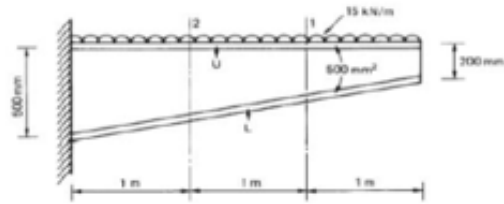

Figure 6
- (b) A wing spar has the dimensions shown in Figure 6 and carries a uniformly distributed load of 15 kN/m along its complete length. Each flange has a cross sectional area of 500 mm^2 with the top flange being horizontal. If the flanges are assumed to resist all direct loads while the spar web is effective only in shear, determine the flange loads and the shear flows in the web at sections 1 and 2m from the free end. [7M]